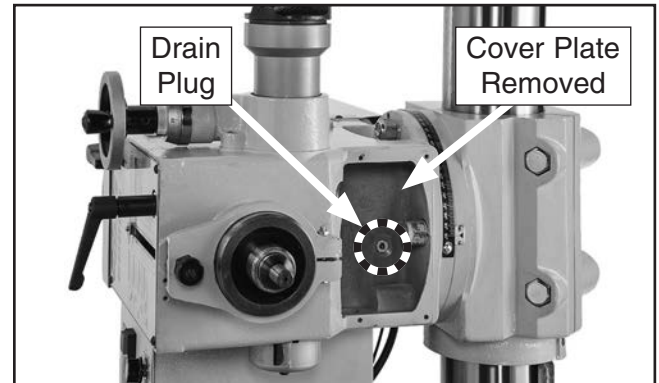

Figure 67. Headstock drain plug (headstock tilted 90° for clarity).
5. Remove cover plate from bottom of headstock (see **Figure 67**).
6. Remove drain plug (see **Figure 67**) from underneath headstock and allow oil to drain into pan.